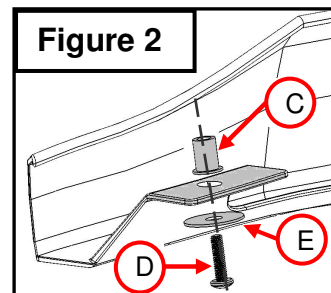

Figure 2
- Attach supplied hardware to hood shield. **(Figure 2)** Mark for pre-drill holes using a marker and referencing the slots in the Putco Hood Shield.